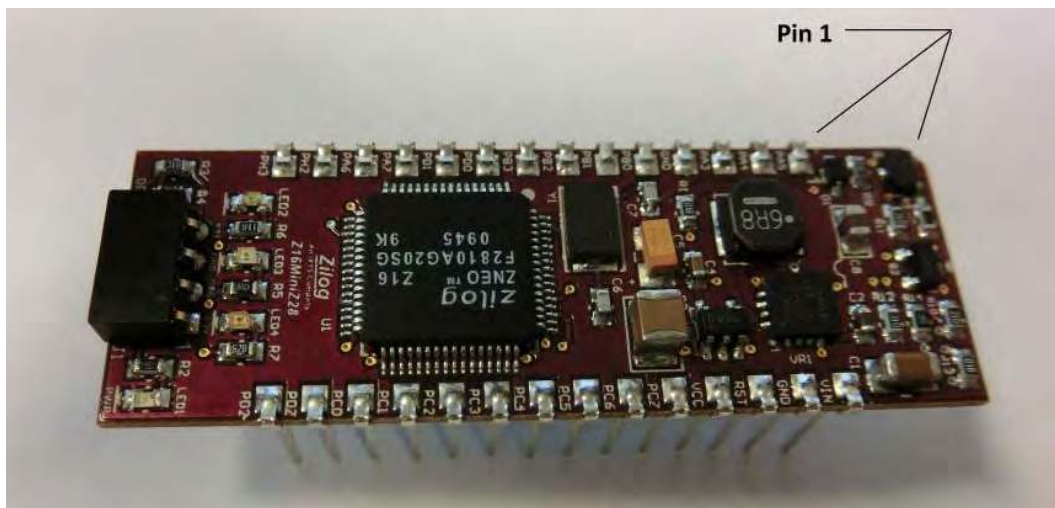

Figure 2. The Location of Pin 1 and Chamfer on the Mini-Z 28-Pin Module
2. Attach the Mini-Z Module to the World Of Sensors Design Board. Ensure that Pin 1 is aligned correctly on both the socket and the Module. Pin 1 on the Mini-Z Module is marked by a chamfered corner, as indicated in Figure 2. Pin 1 on Zilog's World of Sensors Design Board is labeled with the numeral 1.